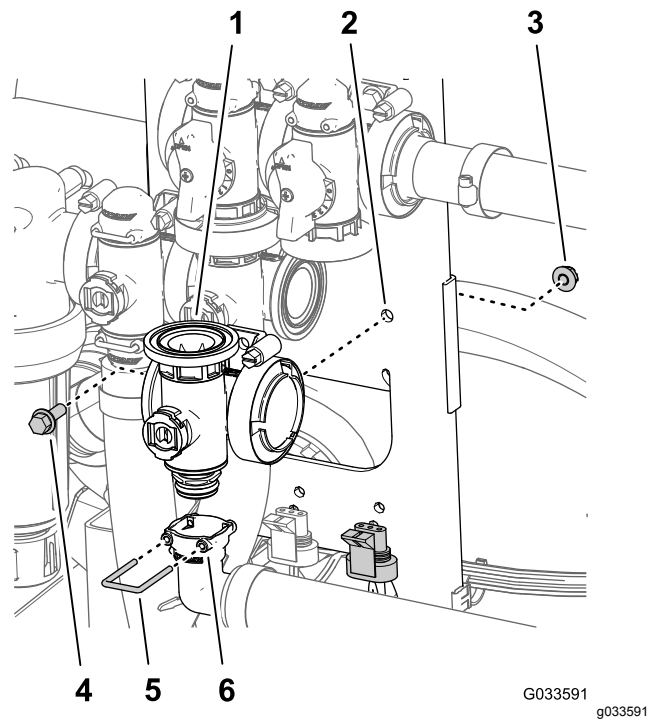

Figure 115
5. Align the socket of the 90° outlet fitting onto the coupling fitting at the at the bottom of the manifold for the master-boom valve (Figure 115).
6. Secure the outlet fitting coupling fitting by inserting a retainer into the socket of the outlet fitting (Figure 115).